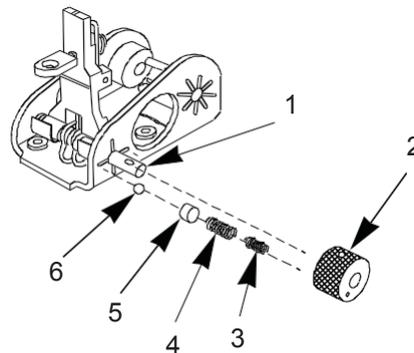

Figure 24. Ball Detent, Plunger, Detent Spring.
33. Remove windage knob (Figure 24, Item 2) from machine screw shaft (Figure 24, Item 1). Separate and discard the ball detent (Figure 24, Item 6), plunger (Figure 24, Item 5), detent spring (Figure 24, Item 4) and detent spring (Figure 24, Item 3) from windage knob (Figure 24, Item 2).